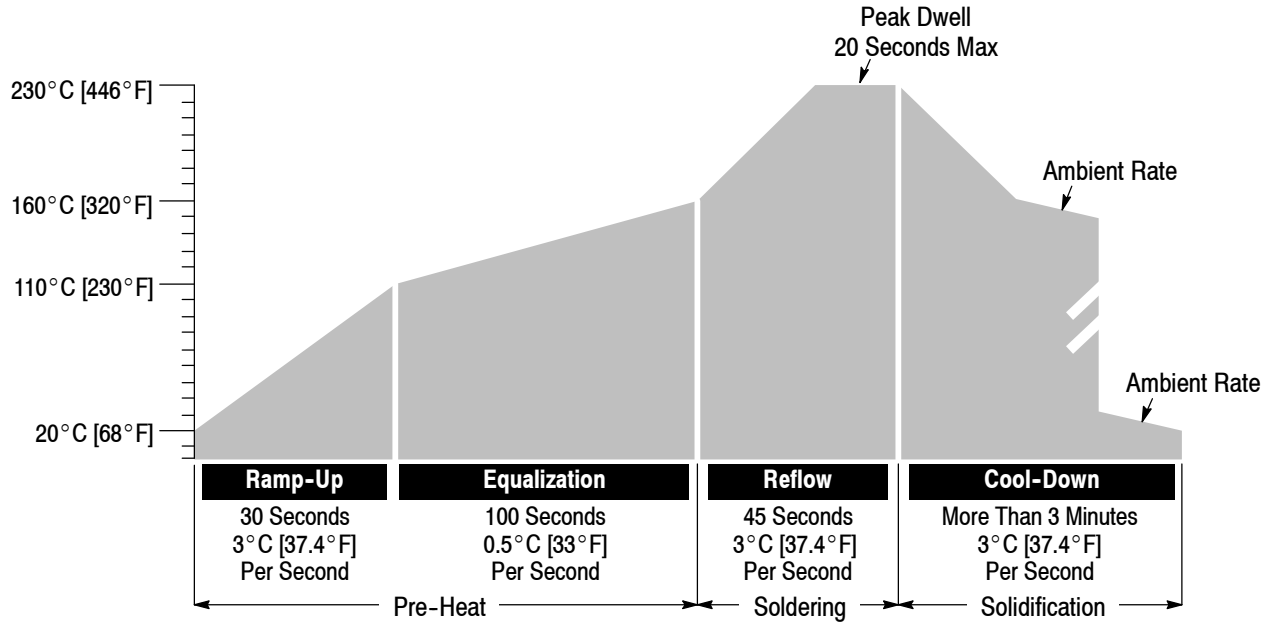

Figure 4
The modular jacks should be soldered using non-focused infrared (IR) reflow, or equivalent soldering technique. The reflow temperature and approximate time to which the housing is subjected is specified in Figure 4.